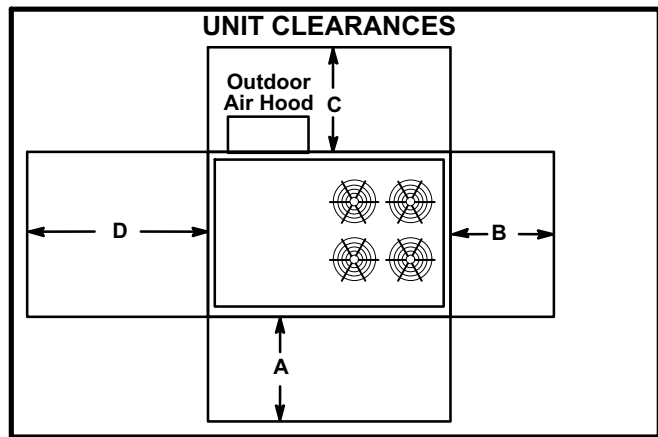

FIGURE 1
See figure 1 for unit clearances.
- 2- Specified installation clearances must be maintained when installing units. Refer to figure 1.